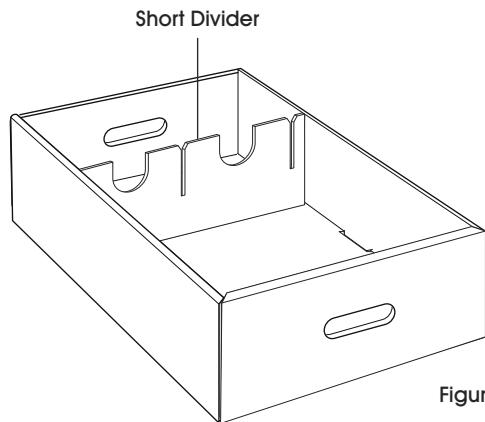

Figure 18
1. Insert short divider into the box as needed, ridges facing upward. (See Figure 18)